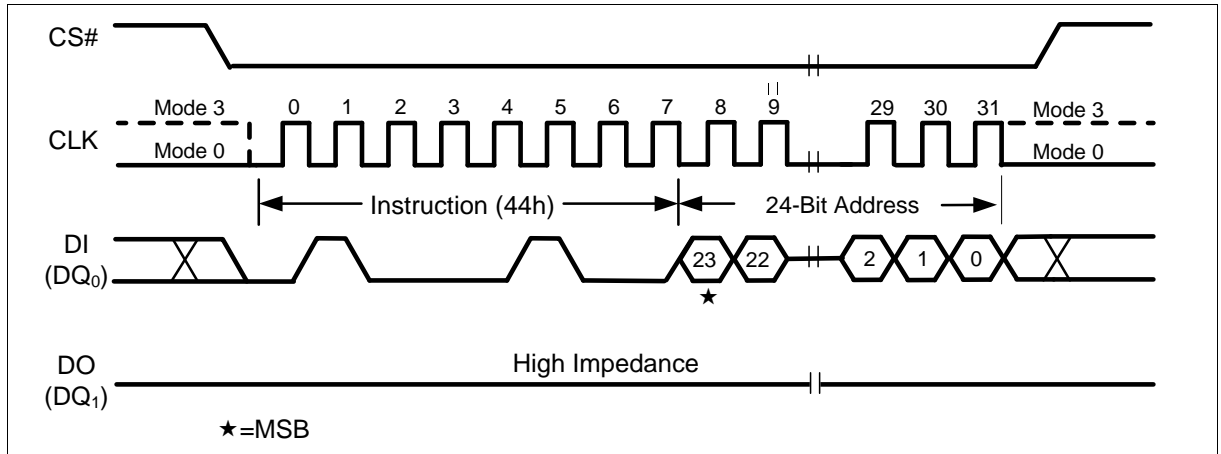

Figure 559 Erase Security Sector Instruction (SPI Mode only)
The Erase Security Sector instruction sequence is shown in Figure 559. The CS# pin must be driven high after the eighth bit of the last byte has been latched. If this is not done the instruction will not be executed. After CS# is driven high, the self-timed Erase Security Sector operation will commence for a time duration of t_{SE} (See “12.6 AC Electrical Characteristics”). While the Erase Security Sector cycle is in progress, the Read Status Register instruction may still be accessed for checking the status of the WIP bit. The WIP bit is a 1 during the erase cycle and becomes a 0 when the cycle is finished and the device is ready to accept other instructions again. After the Erase Security Sector cycle has finished the Write Enable Latch (WEL) bit in the Status Register is cleared to 0. The Security Sector Lock Bit (LB) in the Status Register-2 can be used to OTP protect the Security Sectors. Once the LB bit is set to 1, the Security Sector will be permanently locked, Erase Security Sector instruction will be ignored.